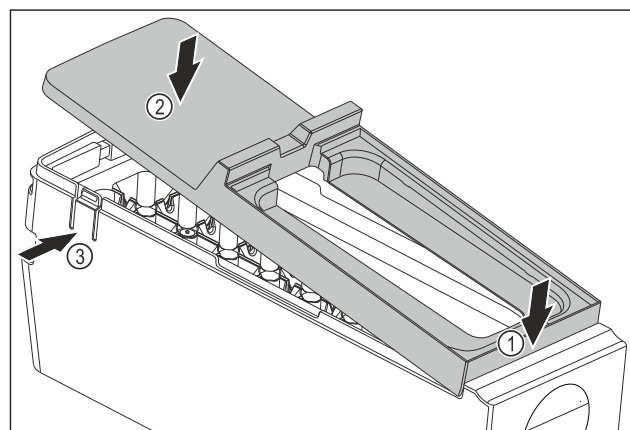

Fig. 168
- Installing the cover of the EasyTwist-Ice body: Fit the cover at the front. *Fig. 168 (1)*
- Lower the cover at the rear. *Fig. 168 (2)*
- The cover snaps audibly into place in both tabs *Fig. 168 (3).*